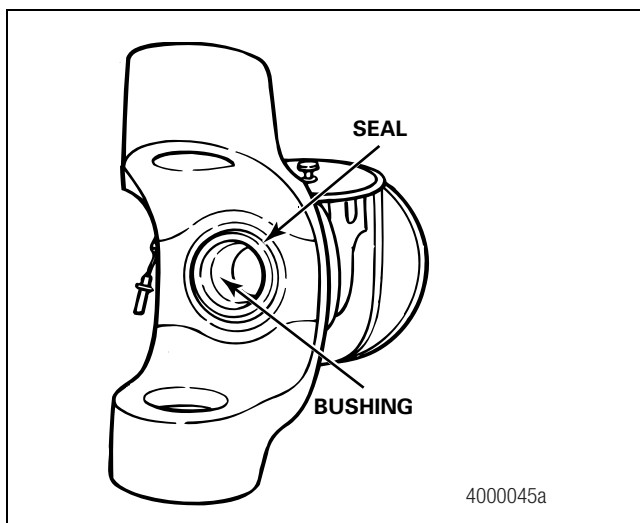

Figure 6.1
2. Install a new inner and outer seal into the housing. The oil seal must be installed with the notch at the top. Figure 6.1. Use a correct size sleeve or driver. Refer to Section 12 for seal driver tool specifications.